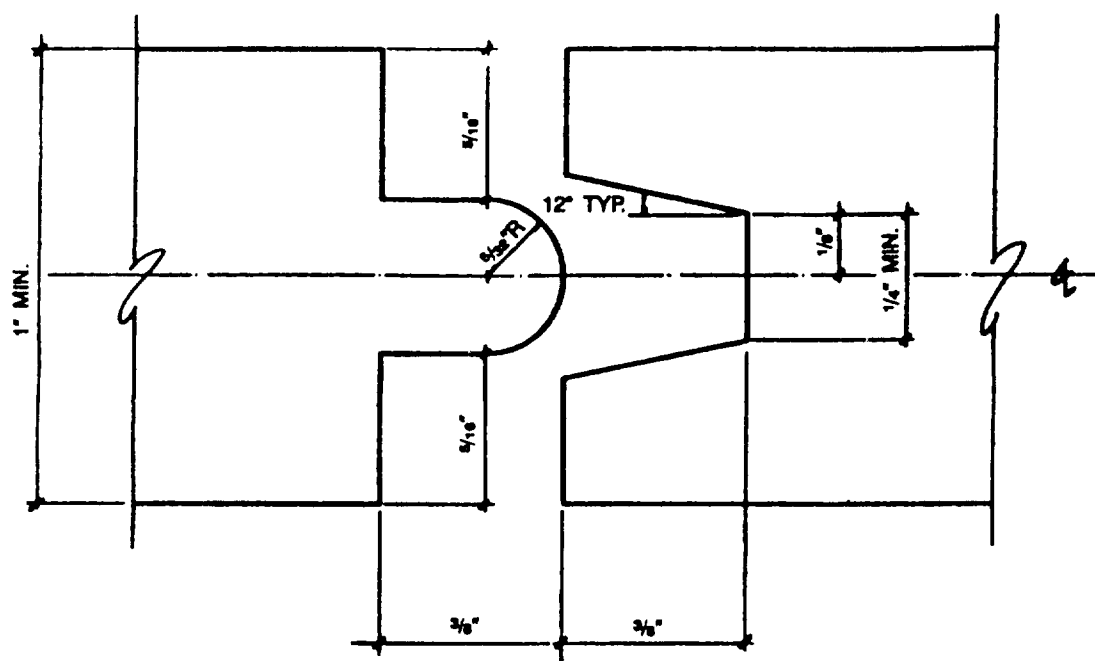

FIGURE 1—TONGUE AND GROOVE
2.2.3.1 Expanded Polystyrene (EPS) Insulation Board: This board has a nominal density of 1.5 pounds per cubic foot, a Class I flame-spread rating and a smoke-developed rating not exceeding 450. Unbacked boards are 1 to 1½ inches thick and provided with ¾-inch-high tongues with compatible grooves for horizontal joints. See Figure 1 for joint detail. All boards must have recognition in an evaluation report issued by ICBO ES or the National Evaluation Service. See Section 2.6 for board identification.